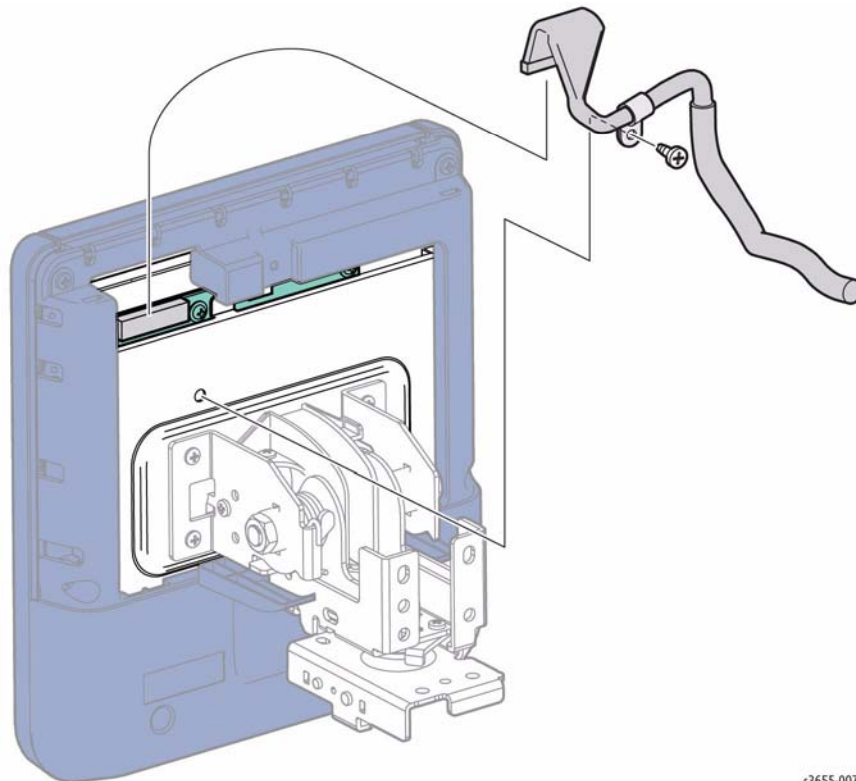

Figure 1 Disconnect the Control Panel
3. Refer to Figure 1 to locate and remove 1 screw and 1 tie that secure the UI cable to the Control Panel.